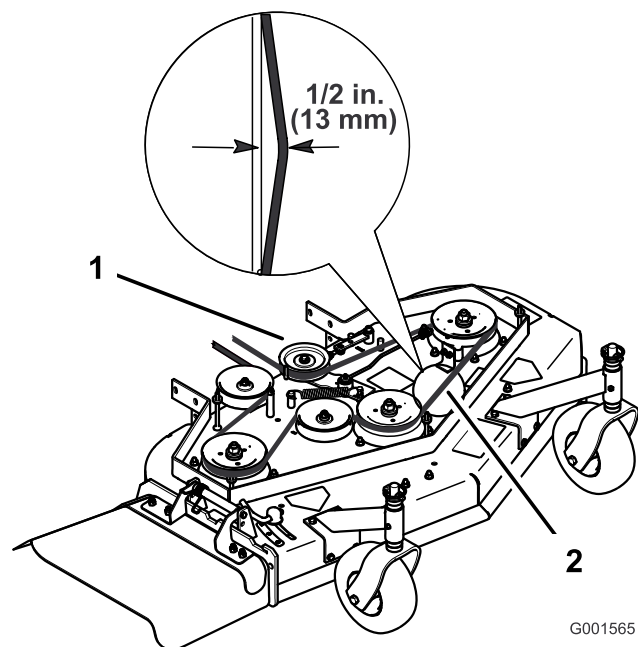

Figure 40
- Rotate the turnbuckle toward the front of the machine to decrease the tension on the belt (Figure 40).